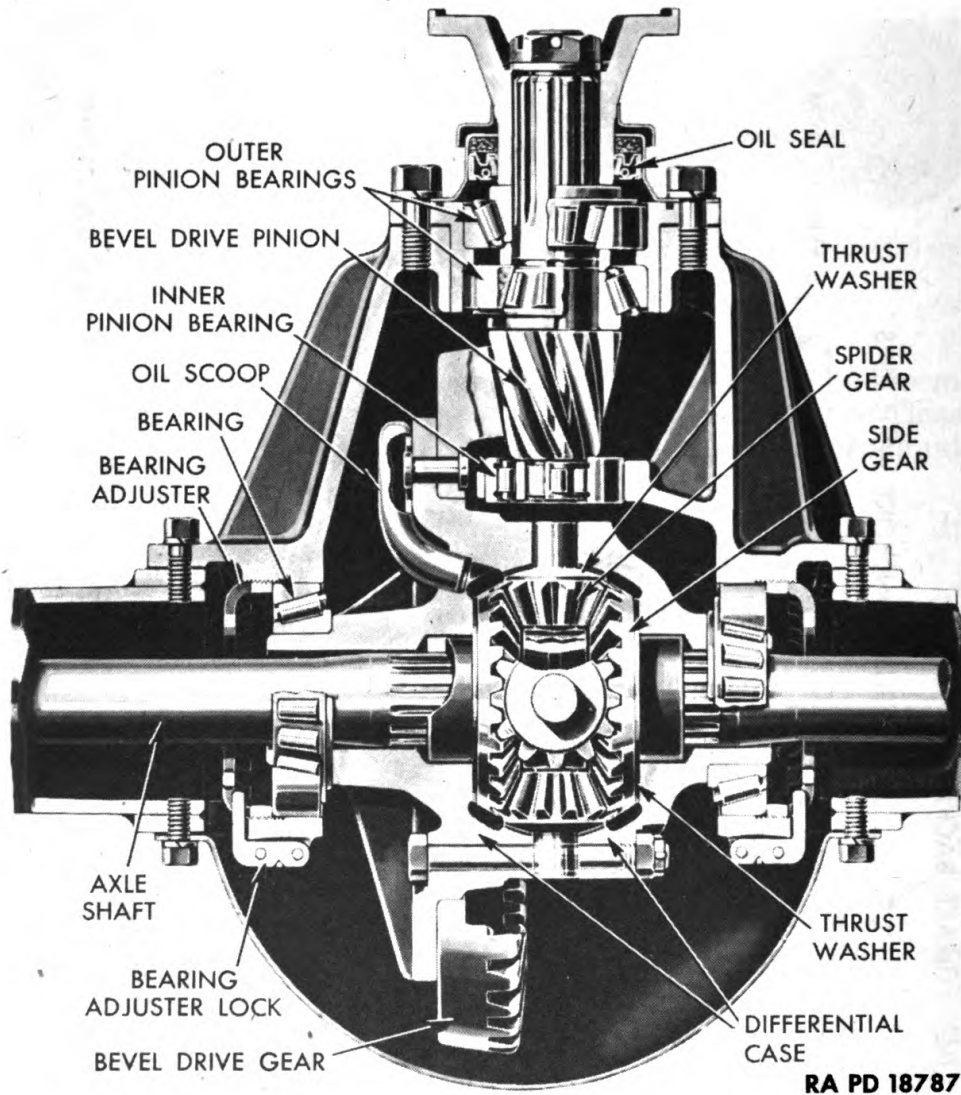

Figure 21 — Cross Section of Front Axle Differential
c. Differential. Construction details of the front axle differential are shown in figure 21.